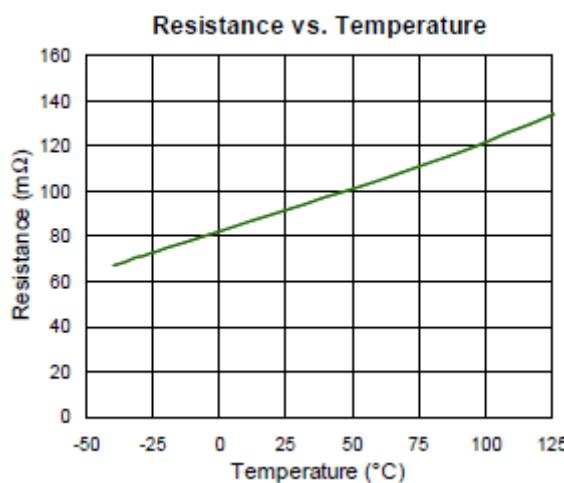

Figure 15. RDS(ON) vs. Temperature
Figure 15 shows the RTQ2106-QA RDS(ON) versus different junction temperature. If the application calls for a higher ambient temperature, we might recalculate the device power dissipation and the junction temperature based on a higher RDS(ON) since it increases with temperature. Using  $60^\circ\text{C}$  ambient temperature as an example, the change of the equivalent RDS(ON) can be obtained from Figure 15 and yields a new power dissipation of  $2.066\text{W}$ .